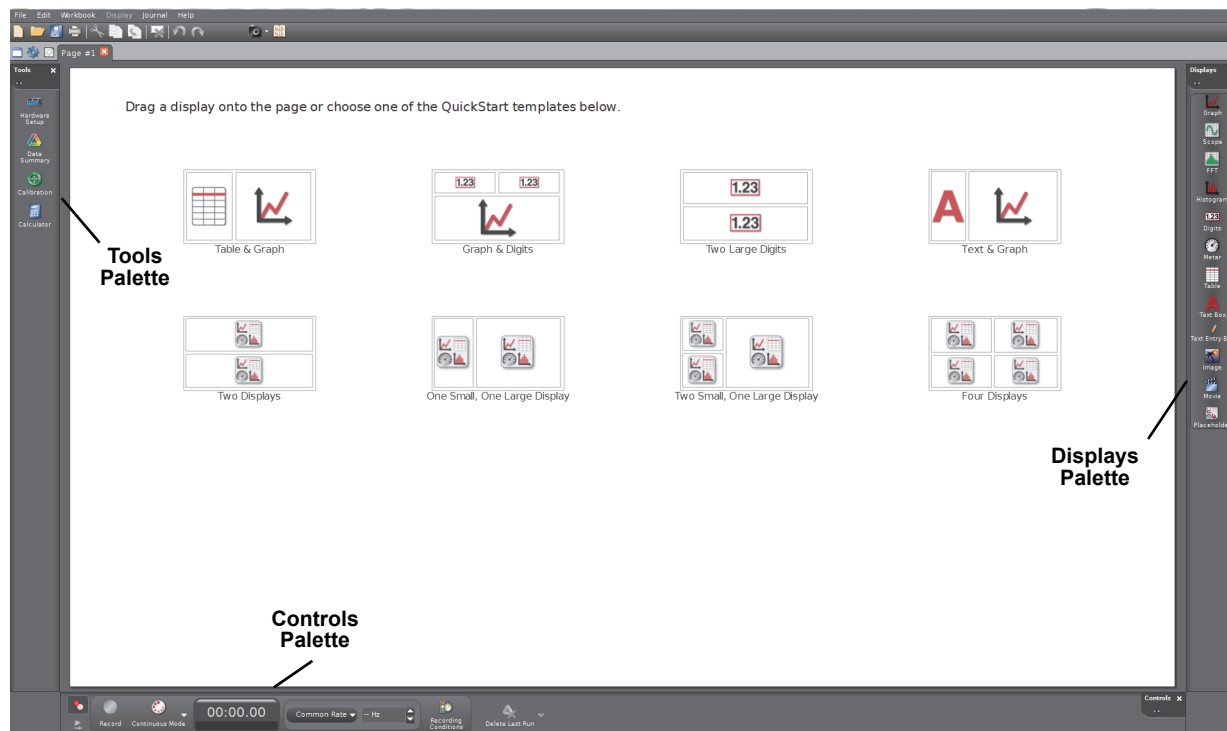

Figure 13: PASCO Capstone
- Carefully screw the 50 mm (millimeter) camera lens to the front of the CMOS camera (see Figure 13). Thread the remaining post into the bottom of the camera. Mount the post in the remaining adjustable post holder. Screw the adjustable post holder onto the third optical carrier.